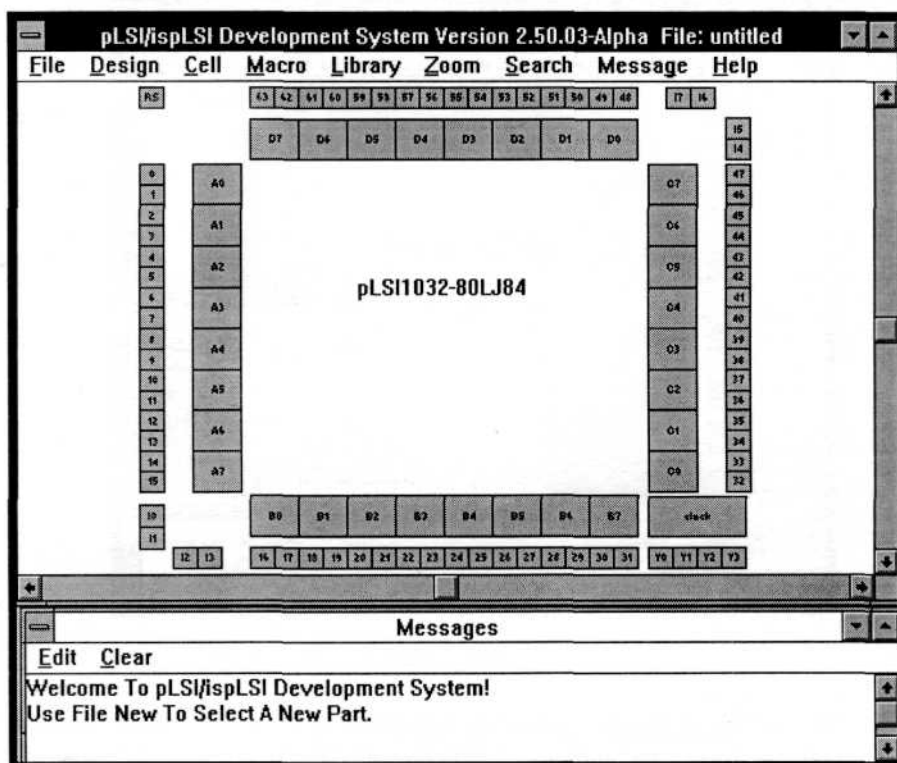

Figure 3-2. Design Manager Window
Once you invoke the Lattice pDS software, two windows appear (Figure 3-2).
The part that is displayed in the block diagram shows the elements of the pLSI 1032 that can be modified by the user. These elements are the GLBs, the IOCs, the dedicated input (DI) pins, and the dedicated clock input pins (see Figure 3-2).